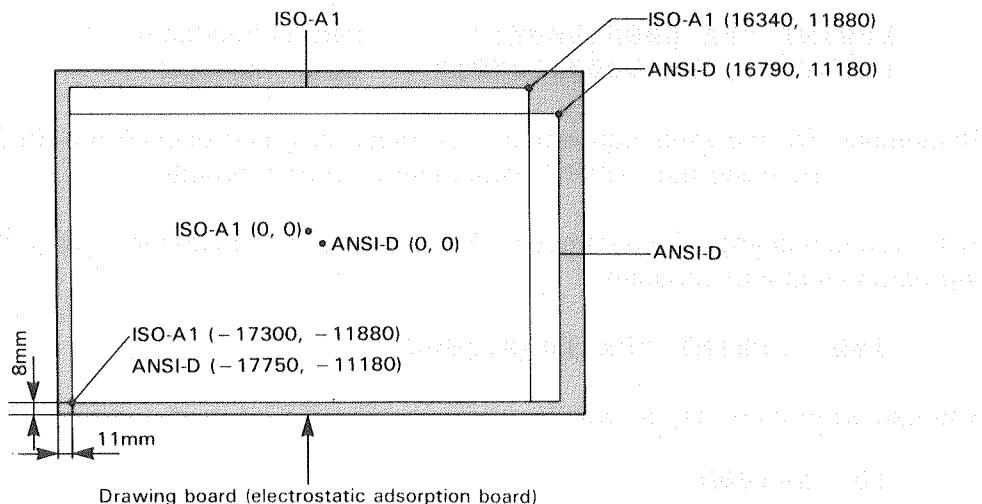

Fig. 6-4
As shown in Fig. 6-4, the coordinate system has X-axis for the horizontal direction and Y-axis for the vertical direction. And it indicates the coordinate values of X-axis and Y-axis like (1000, 2000) when indicating one specific point on the plane surface.
The maximum plotting area (whole area in which drawing can be done) varies from a plotting paper to another. ANSI-D and ISO-A1 in Fig. 6-4 represents the sizes of plotting papers. Switching these paper sizes can be done by setting the DIP Switch 1-⑦. (For more information, see 10.1 "LIST OF DIP SWITCH SETTINGS" in CHAPTER 10.) The maximum plotting area is the same as the sizes of each paper as shown in Table 6-1, and drawing can be done over the entire paper area.
The plotter coordinate system is a coordinate system set at initialization and has been predetermined by the DPX-3300. So, you cannot change the coordinate unit and its origin using commands and so forth. As shown in Fig. 6-4, the plotting area varies in size from a paper to another. The coordinate origin is almost at the center of the drawing board. In the plotter coordinate system, **1 coordinate unit per plotter = 0.025 mm**. If you want to specify 1 mm, you specify 40 plotter coordinate units for the actual drawing ($0.025 \text{ mm} \times 40 = 1 \text{ mm}$).